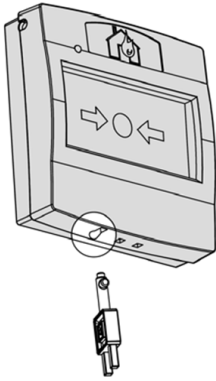

Figure 9
2. Open the protected flap and insert the supplied reset key into the keyhole. (Figure 9).